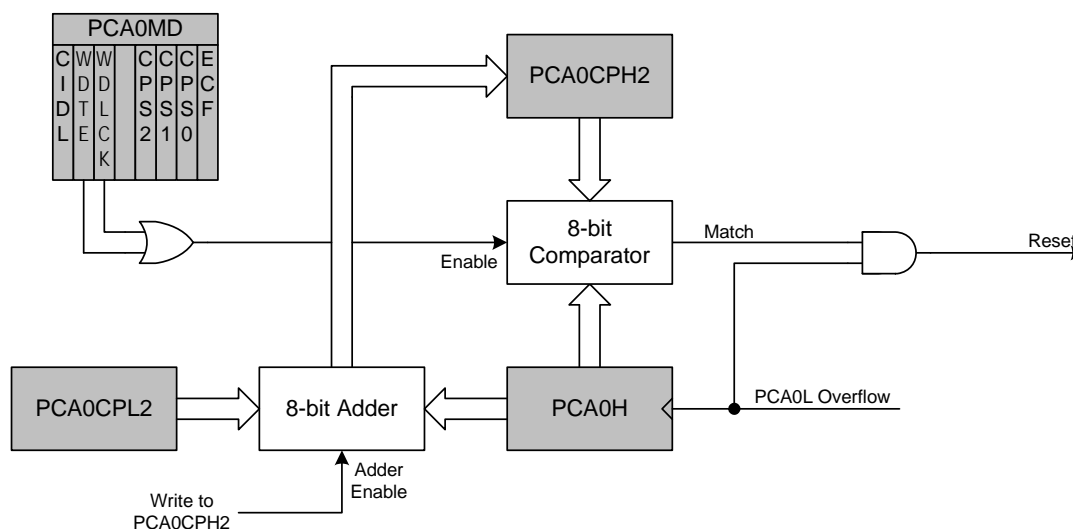

Figure 19.10. PCA Module 2 with Watchdog Timer Enabled
While the WDT is enabled, writes to the CR bit will not change the PCA counter state; the counter will run until the WDT is disabled. The PCA counter run control (CR) will read zero if the WDT is enabled but user software has not enabled the PCA counter. If a match occurs between PCA0CPH2 and PCA0H while the WDT is enabled, a reset will be generated. To prevent a WDT reset, the WDT may be updated with a write of any value to PCA0CPH2. Upon a PCA0CPH2 write, PCA0H plus the offset held in PCA0CPL2 is loaded into PCA0CPH2 (See Figure 19.10).